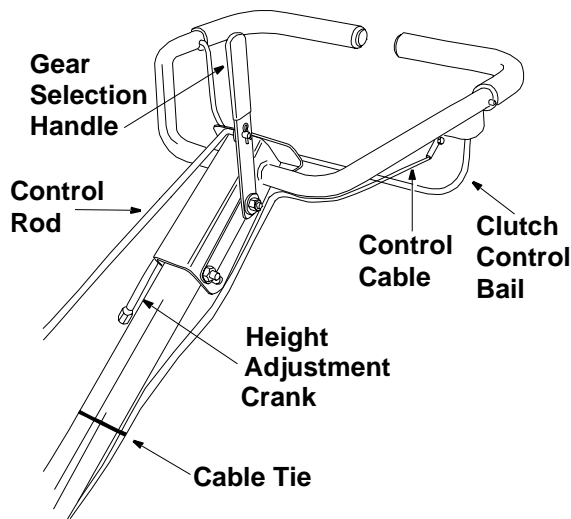

Figure 8
Secure drive cable to handle using cable tie. Refer to Figure 8. Cut off excess end of cable tie.
3. Insert the longer end of the control rod through the hole in the gear selector handle and secure with hairpin clip. (See Figure 8).
The gear selection handle is located in the center of the handle on the tiller. It is used to select NEUTRAL, REVERSE, or one of the FORWARD modes (see below). Pull or push the handle so that the indicator on top of shift cover points to the operating mode desired. See Figure 8.
The clutch control bail is located below the handle. See Figure 8. Lifting the clutch control bail against the handle engages the wheel and tine drive mechanisms.
HANDLE ADJUSTMENT (See Figure 8)